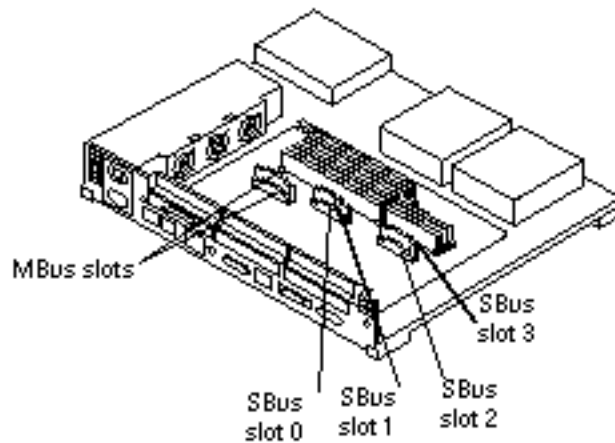

Figure 10–1 SBus Slot Locations
6. Note the SBus card location. See Figure 10–1.
7. Remove the screws and washers from the outside of the rear panel where the SBus card is fastened. See Figure 10–2.